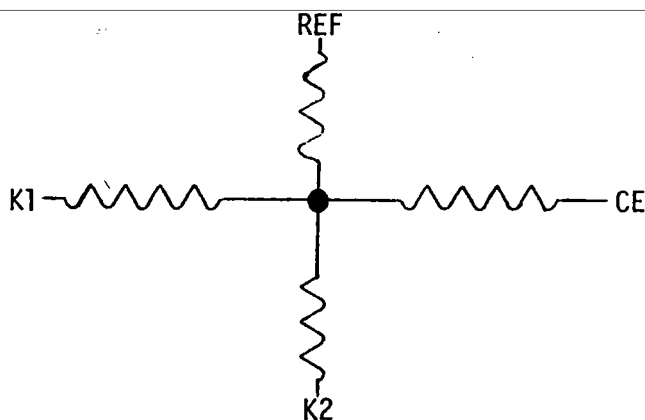

Figure 13. Dummy Cell of RDE 3 Potentiostat
When a malfunction or some anomalous behavior is observed during electrochemical experiments, one must first determine whether the difficulty originates within the potentiostat or is external to the potentiostat. To facilitate trouble shooting, a so-called dummy cell is located within the potentiostat which is constructed from four resistors with a common connection as shown in Figure 13. When the function switch labelled ELECTRODES at the
left side of the front panel on the RDE 3 is in the dummy position, all connections to the electrolysis cell are disconnected and internal connections of CE, K1, K2 and REF are made to the dummy cell as shown in Figure 13. In effect, simple resistance analogs are substituted for the functions of the normal electrodes in the electrolysis cell.
4. Current at $E \approx 0.3$ V vs. SCE on residual current-potential curve is larger than normal for properly functioning electrode of comparable area at same rotation speed (see Figure 13).
In the absence of dissolved O_2 , the residual current observed at $E \approx 0.3$ V vs. SCE on the positive potential sweep is approximately equal in magnitude, but opposite in polarity, to the current for the negative potential sweep. (See Figure 13)